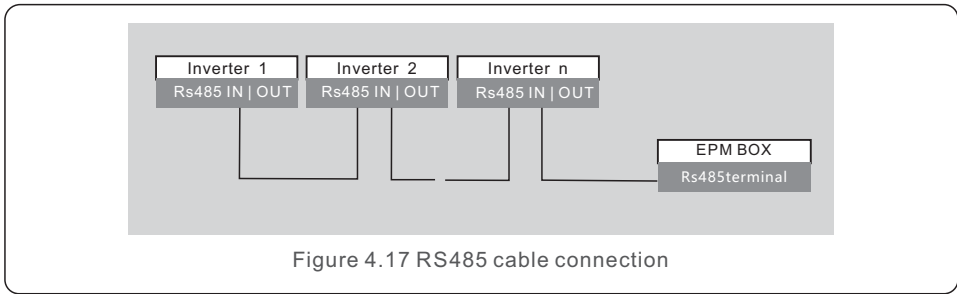

Figure 4.17 RS485 cable connection
b. Refer to figure 4.17, connect communication cable between inverter and EPM, the RS485 line length between the inverter 1 and EPM should less than 1000 meters.